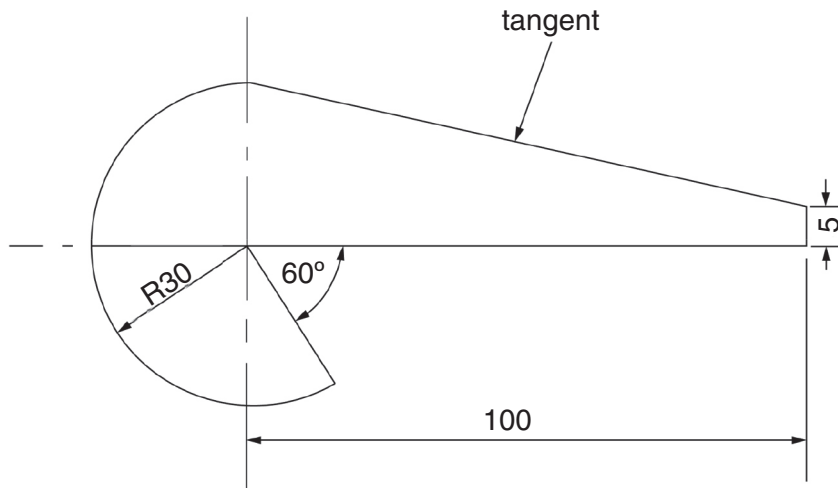

Fig. 5
- 6 Reproduce the orthographic view of the engineer's centre square shown in Fig. 5.